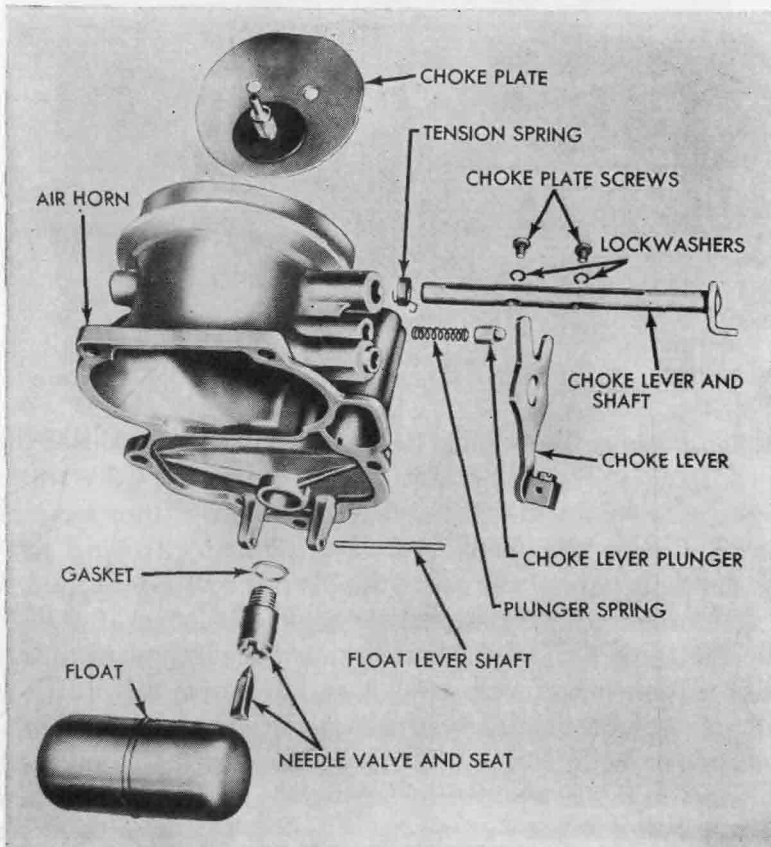

FIG. 10-29. Carburetor air horn disassembled. (Ford Motor Company)
3. *Disassembling air horn* (refer to Fig. 10-29). Disassemble air horn by removing the float-lever shaft, float, and needle valve. Use jet wrench to unscrew needle-valve seat. If necessary, take out choke-plate screws and remove choke plate and shaft.